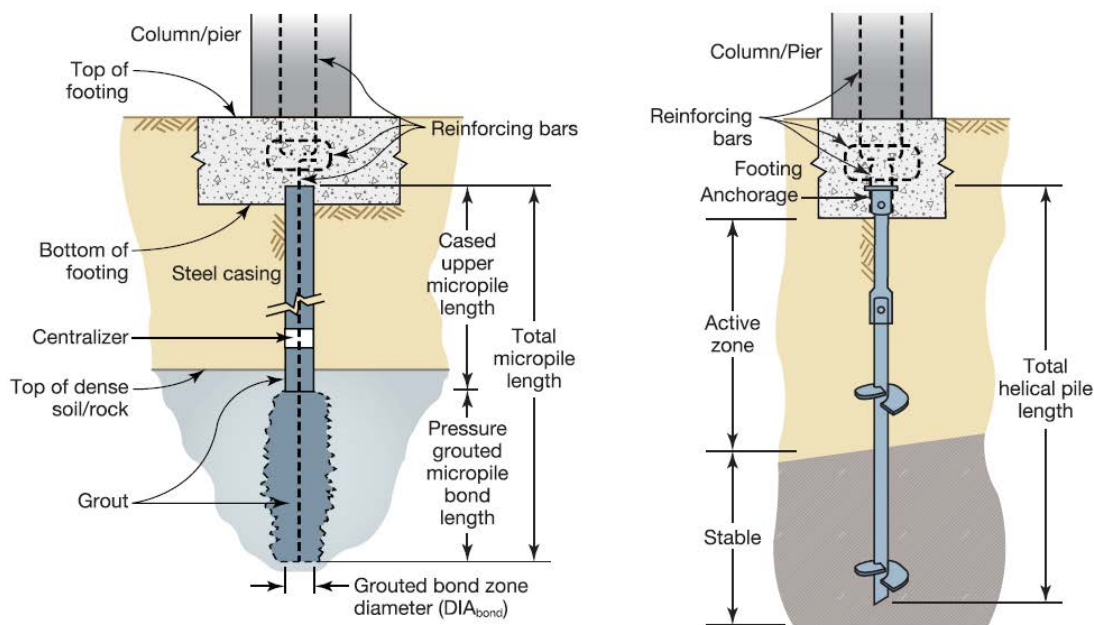

Figure 3.1.9. Grouted micropile (left) and helical pile (right) can strengthen existing building foundations.
- Steel ground anchors, micropiles or helical piles are drilled or bored next to or through the existing foundation (Figure 3.1.9), secured by grouting, and then connected to the existing building.